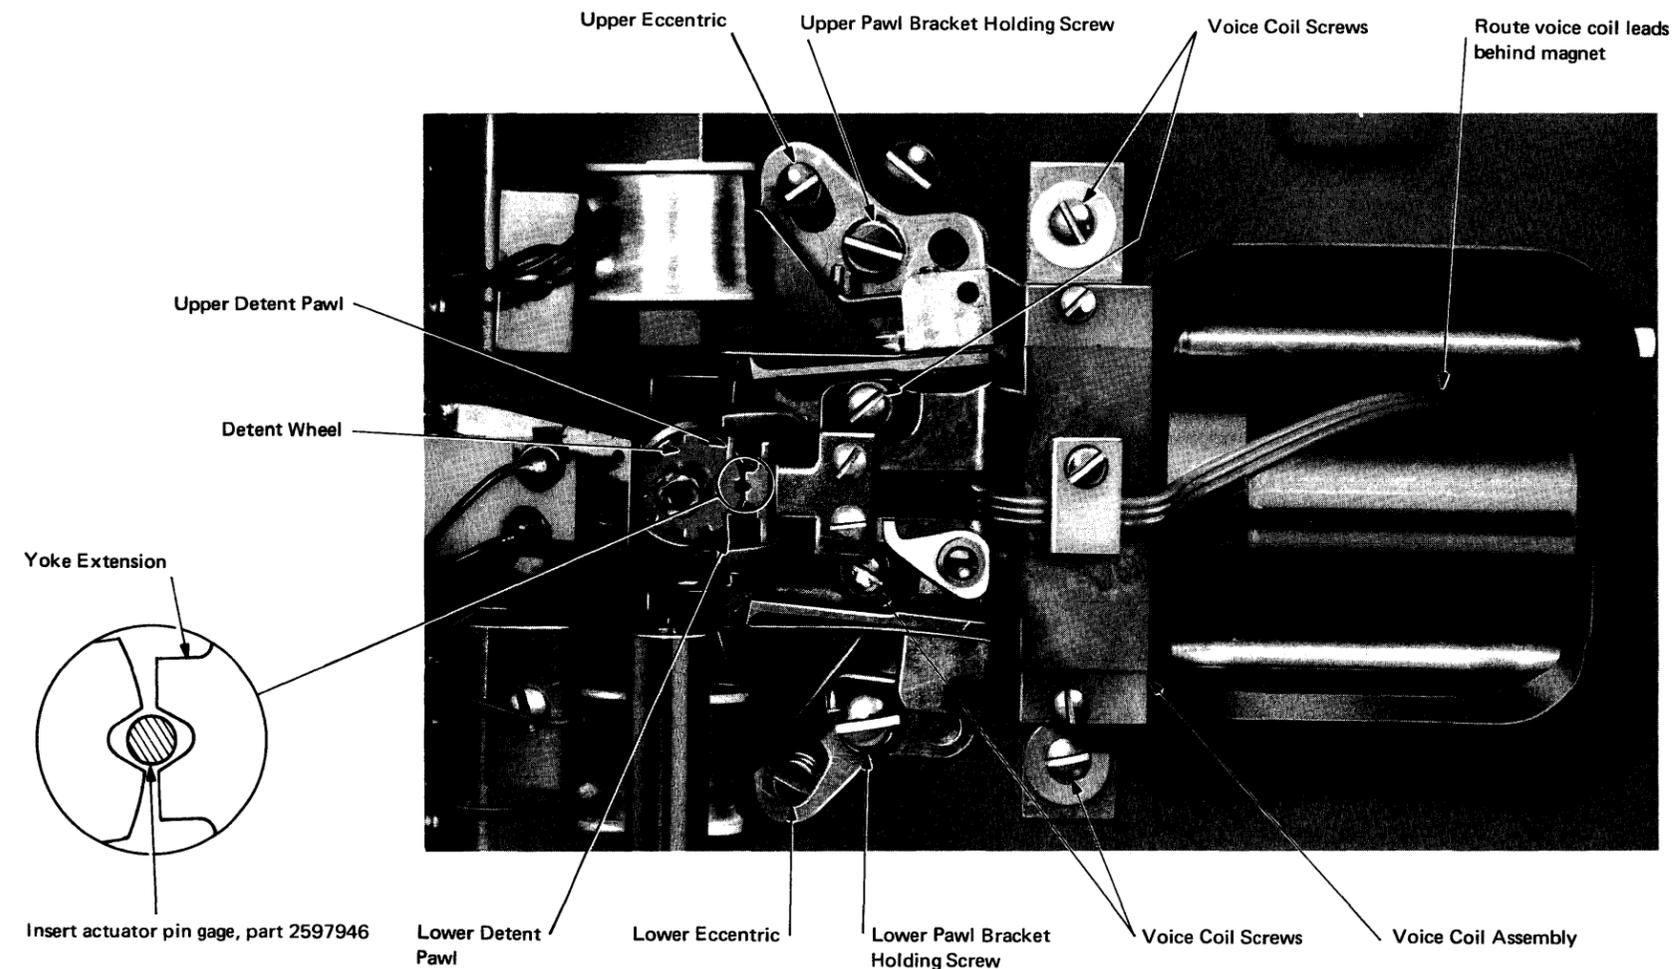

Figure 2-34. Voice Coil Assembly [07457]
The voice coil assembly, part 2537382, (Figure 2-34) is a factory-adjusted unit and individual parts cannot be changed. The magnet may be removed for cleaning. Locating dowels must not be disturbed.
4. Remove the four voice coil screws (see Figure 2-34) and lift complete assembly from base casting.
1. Position voice coil assembly (see Figure 2-34) on detent plate (see Figure 2-27). Ensure that locating dowels enter slots in plate. Insert and hand-tighten screws, leaving assembly free to move.
3. Insert actuator pin gage, part 2597946, in between the crests of the detent wheel (see detail in Figure 2-34). Slide voice coil assembly forward until V-shaped extension on yoke grips the gage with no clearance: *do not use force*. Tighten coil holding screws.
3. Remove pawl bracket holding screw (see Figure 2-34). The eccentric adjuster is a loose piece that is secured by the bracket; do not drop it, therefore, as bracket is withdrawn.